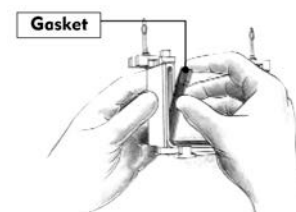

Figure 3. Removing the gasket from the cell.
- To use a Bio-Rad Mini-PROTEAN Cell Apparatus, remove the gasket from the inner frame (Figure 3), turn it around so the flat side is facing outwards and re-insert into the inner frame.